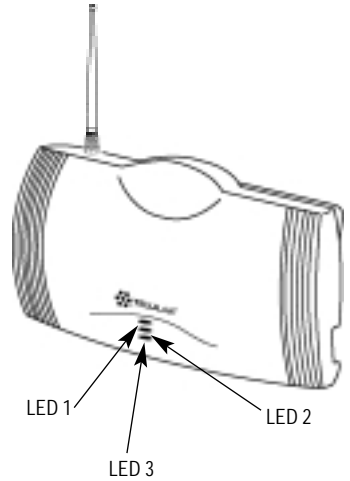

Figure 9 - LED status indicators.
- The three LED indicators on the front of your Phonecell will turn ON. The Tables below describe the modes and operation of the three indicators - see **Figures 9 and 10**.